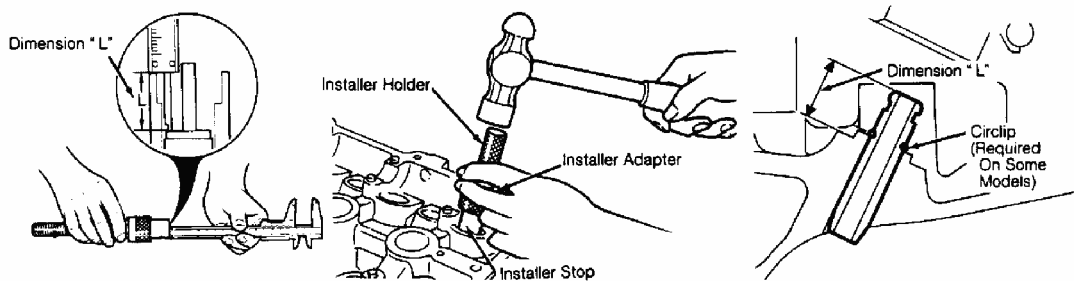
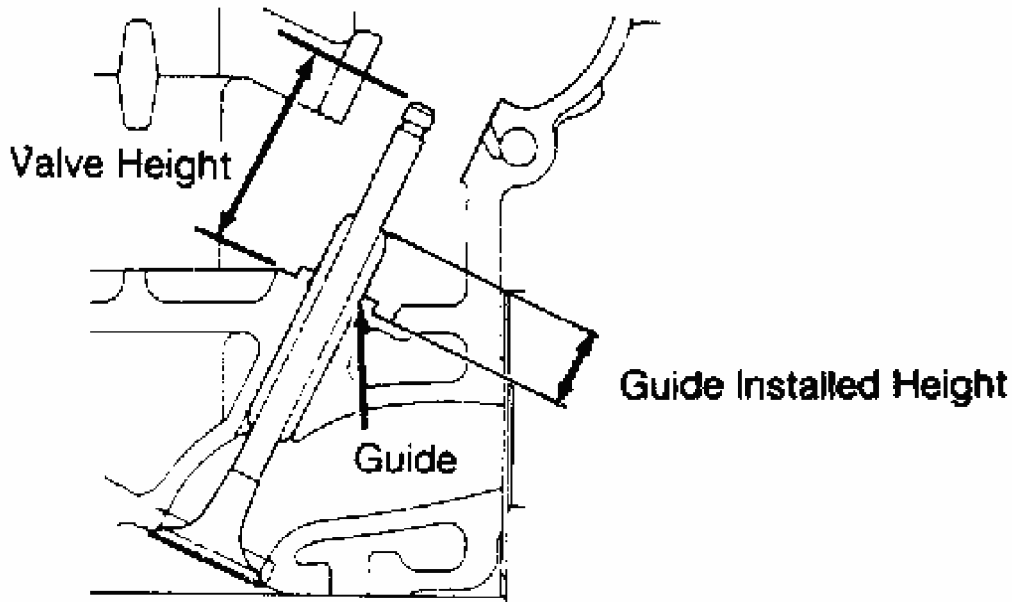

Fig. 11: Adjusting Valve Guide Installer & Installing Guide
Fig. 12: Measuring Installed Valve & Guide Height
3. If required, install new circlip on guide. Using proper components of Valve Guide Installer (49-L012-0A0), adjust installer guide depth (dimension "L") to specification using depth micrometer or caliper. See **Fig. 11** .
4. Insert guide into pre-adjusted installer, and drive guide into cylinder head from camshaft side until guide circlip and/or installer contact cylinder head. Measure dimension "L" (guide installed height). See **Fig. 11** or **Fig. 12** . If installed height is not within specification, adjust or replace valve guide or cylinder head as necessary. See VALVE GUIDE INSTALLED HEIGHTS table.
2. Measure seat contact width on valve, and note that seat contact position should be in center of valve face. Service seat if angle and width are not within specification. See CYLINDER HEAD table under ENGINE SPECIFICATIONS at end of article. Measure valve installed height after servicing valve seat. See **Fig. 12** . See VALVE INSTALLED HEIGHTS table.